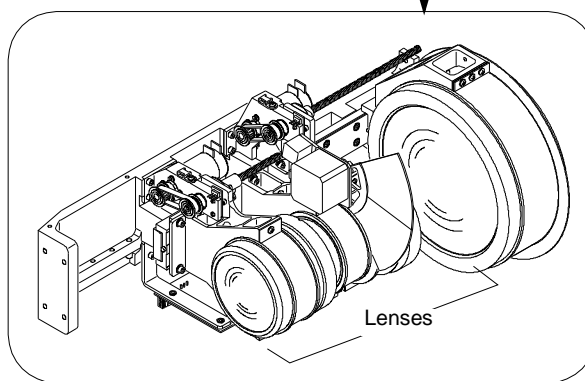

Figure 4-7: Accessing Zoom Lens Assembly
- Step 2. Remove R1-side head cover to access Zoom Lens Assembly (head cover doors have a label to identify them). See **Figure 4-7** on **page 67**.